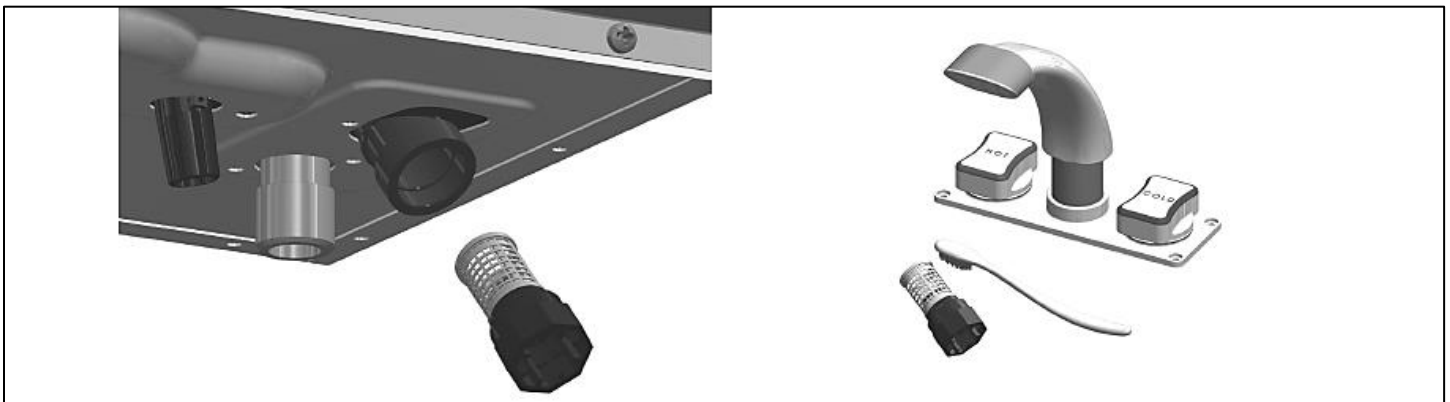

Figure 56 – Draining the Water Heater
6. Remove the filter from the plastic assembly and clean it with a toothbrush and clean running water. See Figure 56.